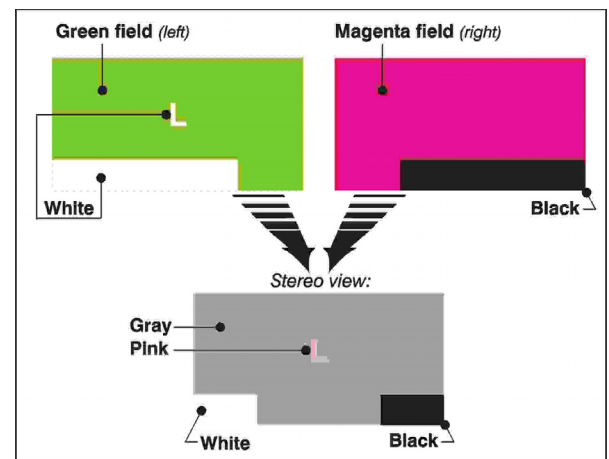

Figure 3.41. Internal Test Pattern for 3D
- ❑ Proper 3D configuration defined in the TPC's *Custom 3D Control* menu. For best results, use the 3D internal test pattern shown in Figure 3.41.